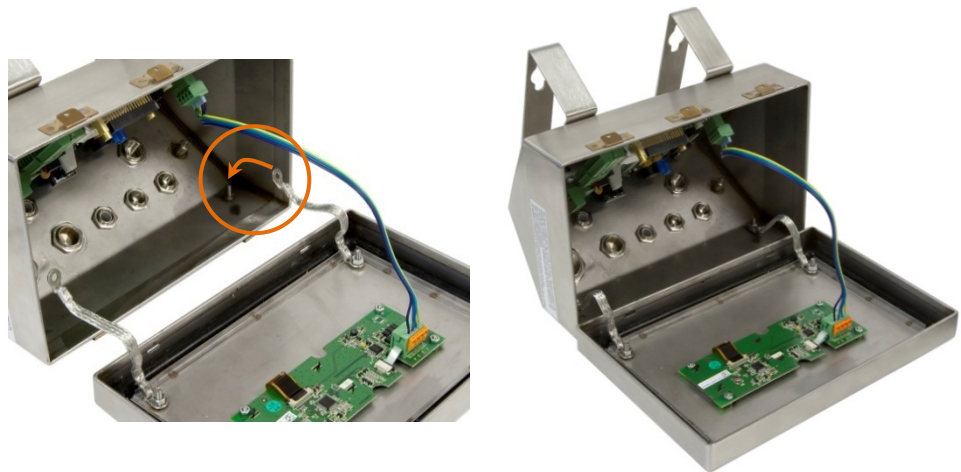

Figure 2-22: Reversing the Cover
- C. Carefully rotate the front cover 180 degrees and reattach the two grounding straps to the two studs near the grip bushings using the two nuts removed in the previous step as shown in Figure 2-22. Tighten the two nuts.